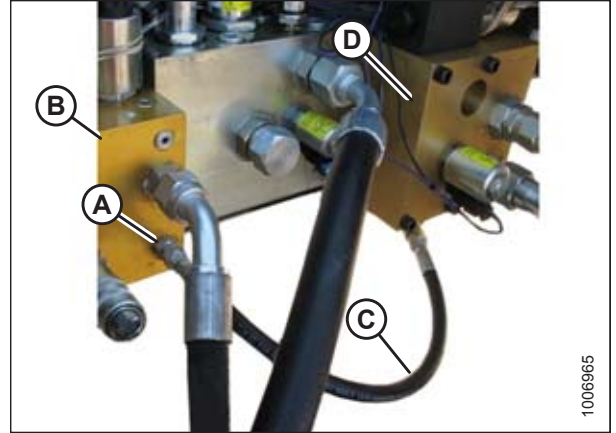

Figure 3.62: Connected Jumper Hose
2. Disconnect jumper hose (B) from 90 degree fitting (C) at port R4 on the reverser valve block (A).
3. Rotate 90 degree fitting (D) under reverser valve block so hose can be routed to port C2 at (C) as shown in Figure 3.62, page 51.